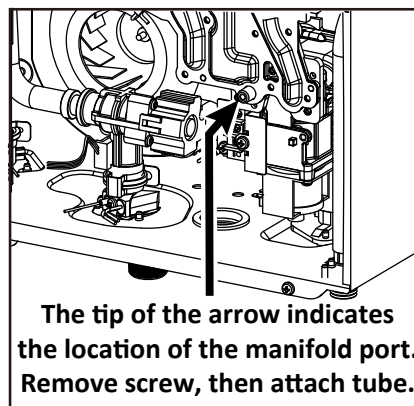

Figure 22.
3. Remove the screw from the manifold port (Figure 22).
2. Remove the screw from the manifold port (Figure 22).
2. Remove the screw from the manifold test port (Figure 22, page 34). See also page 49 or page 50.